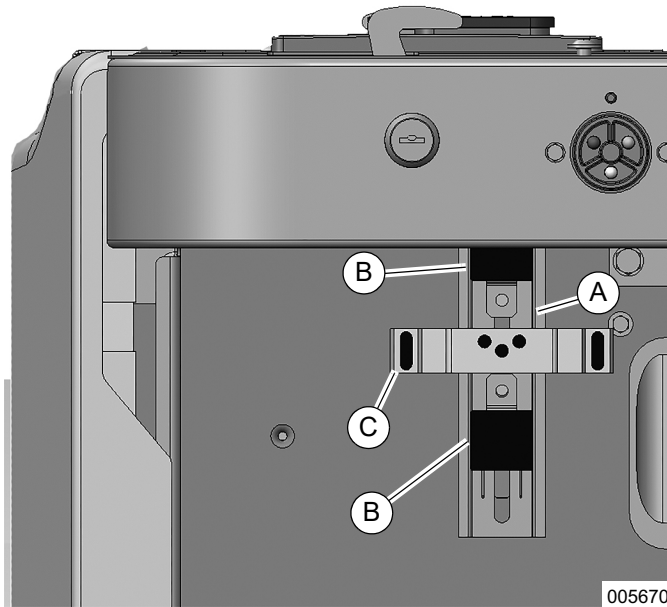

Figure 4. Mount DIN Rails and Relays
- See **Figure 4**. Mount DIN rail (A) to drilled holes in engine divider panel with two M4-0.7 X 10 (8-32 x 0.5 in) fasteners and nuts.